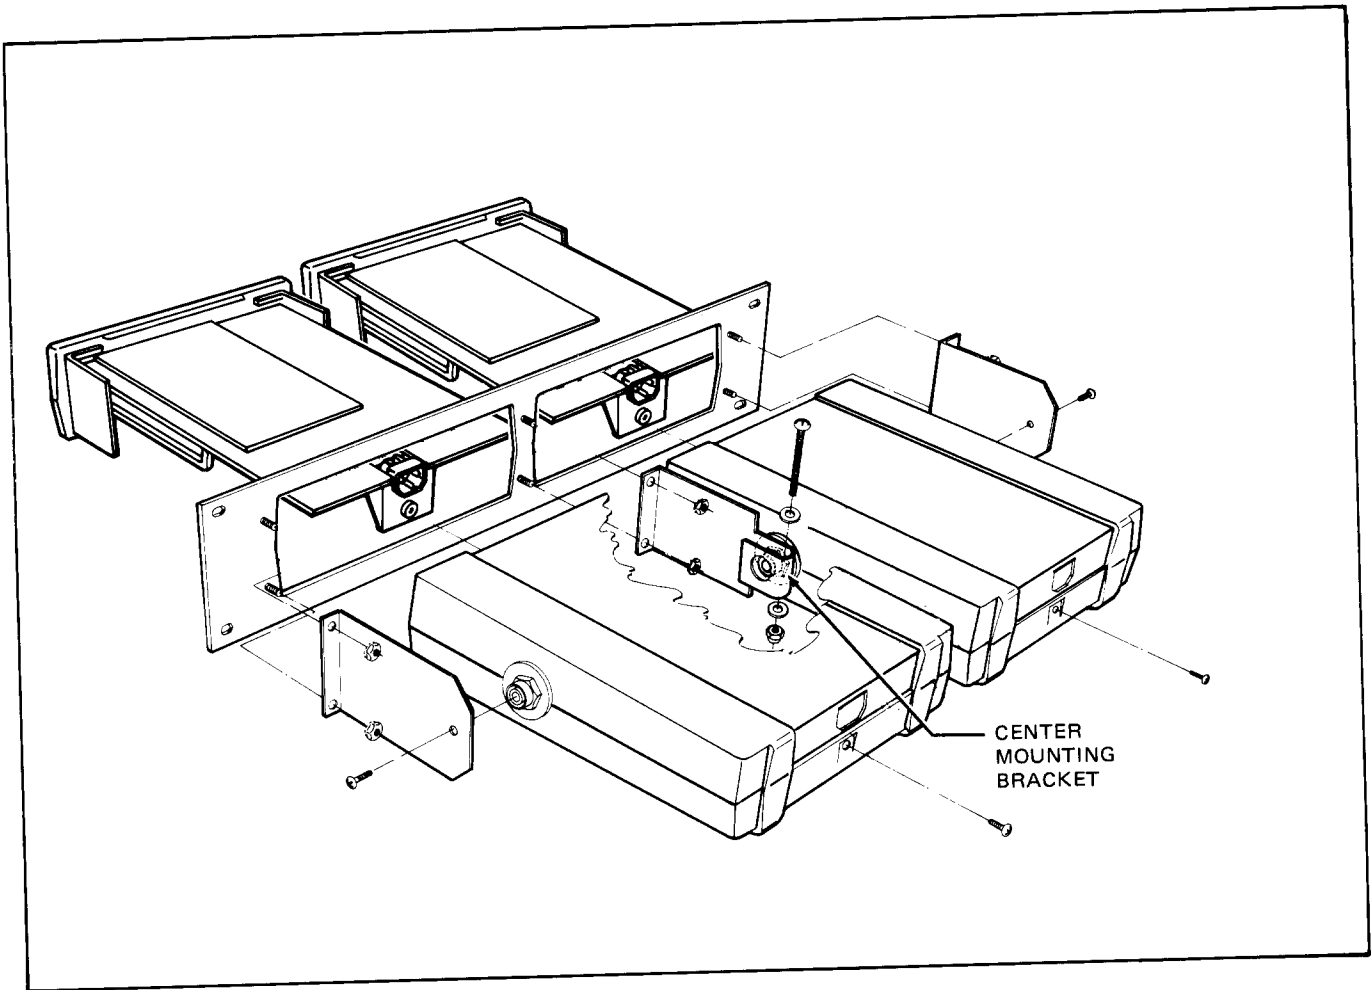

Figure 600-4. Rack Mounting Kit, Side-by-Side Mounting
3. Install the center mounting bracket, as shown in Figure 600-4 and secure it to the mounting panel, using the nuts provided.